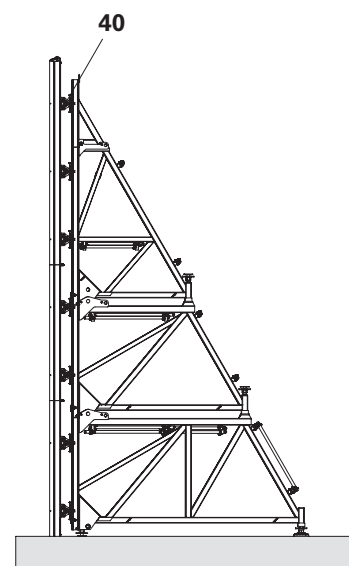

Fig. B2.08
5. Lift the brace frames into the open Brace Frame Connectors SB/RFP (40) with the crane. Secure the wedges. Formwork support rests against these. (Fig. B2.08)